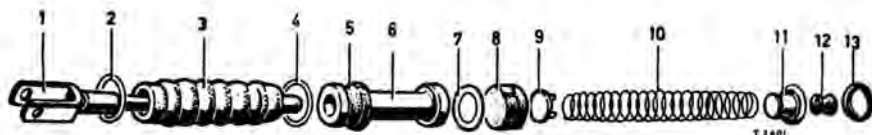

Fig. 32. Brake master cylinder, piston and related parts
In Fig. 32 the brake master cylinder piston and related parts are shown. The clutch master cylinder piston is identical except that there is no foot-valve assembly (items 11 to 13).